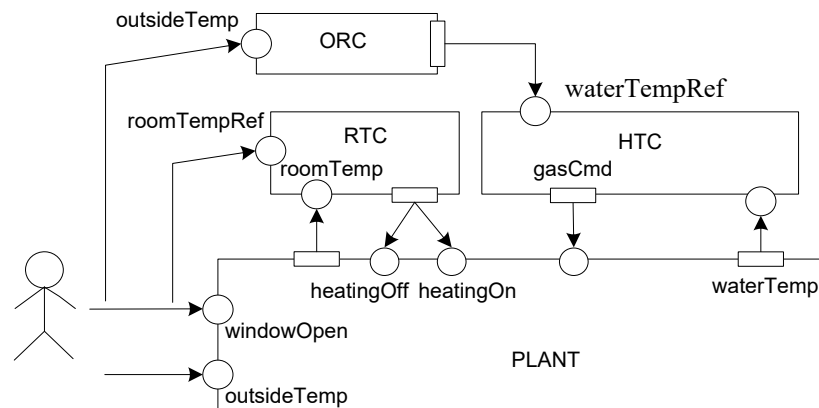
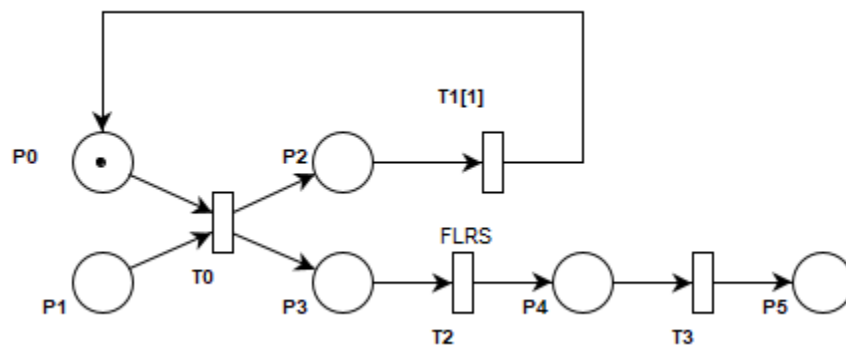

Figure 4.1 Component diagram
Figure 4.2 Petri net of the ORC component
3. Starting from the above application, build an application that contains another component called the Outside Reference Calculator (ORC), which has an input port to read the outside temperature and based on that tries to estimate the optimum water temperature in the boiler. The diagram of the components in Figure 4.1 is presented, and in Figure 4.2 is presented the Petri net that model the component.